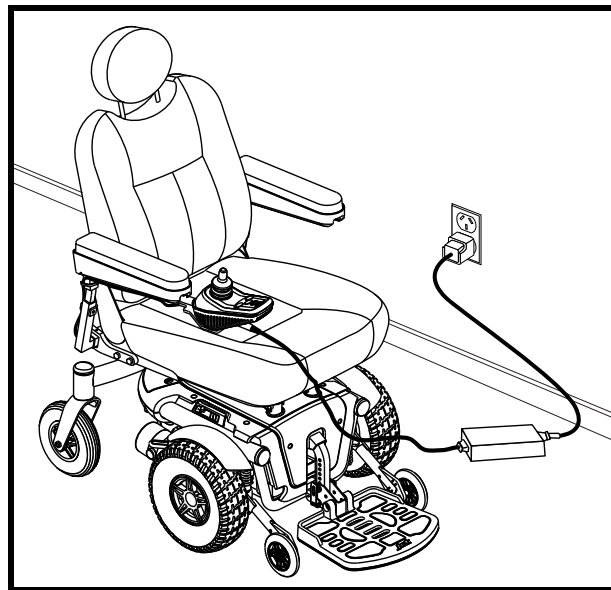

Figure 28. Battery Charging
3. Plug the off-board charger into the off-board charger/programming socket on the controller. **See figure 28.**